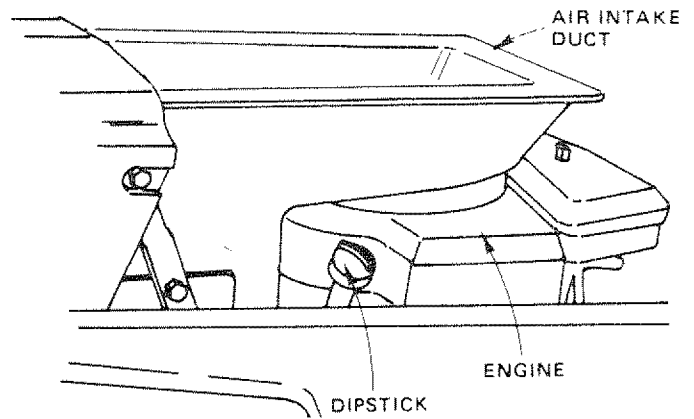

FIGURE 14
- This engine has been shipped filled with summer weight oil. For cold weather operation, see chart on page 16. Check engine oil level with tractor on level ground. Remove and wipe dipstick (Fig. 14) clean, screw it in tight for a few seconds, remove and read oil level. If necessary, add oil until "FULL" mark is reached.